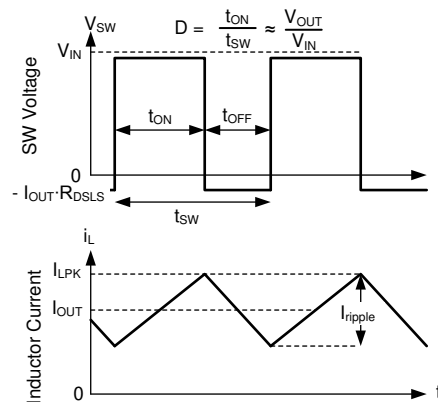

Figure 7-11. SW Voltage and Inductor Current Waveforms in Continuous Conduction Mode (CCM)
The following operating description of the LM654x0-Q1 refers to Section 7.2 and the waveforms in Figure 7-11. Both supply a regulated output voltage by turning on the internal high-side (HS) and low-side (LS) NMOS switches with varying duty cycle (D). During the HS switch on-time, the SW terminal voltage, V_{SW} , swings up to approximately V_{IN} , and the inductor current, i_L , increases with a linear slope. The HS switch is turned off by the control logic. During the HS switch off-time, t_{OFF} , the LS switch is turned on. Inductor current discharges through the LS switch, forcing V_{SW} to swing below ground by the voltage drop across the LS switch. The regulator loop adjusts the duty cycle to maintain a constant output voltage. D is defined by the on-time of the HS switch over the switching period: $D = T_{ON} / (T_{ON} + T_{OFF})$.